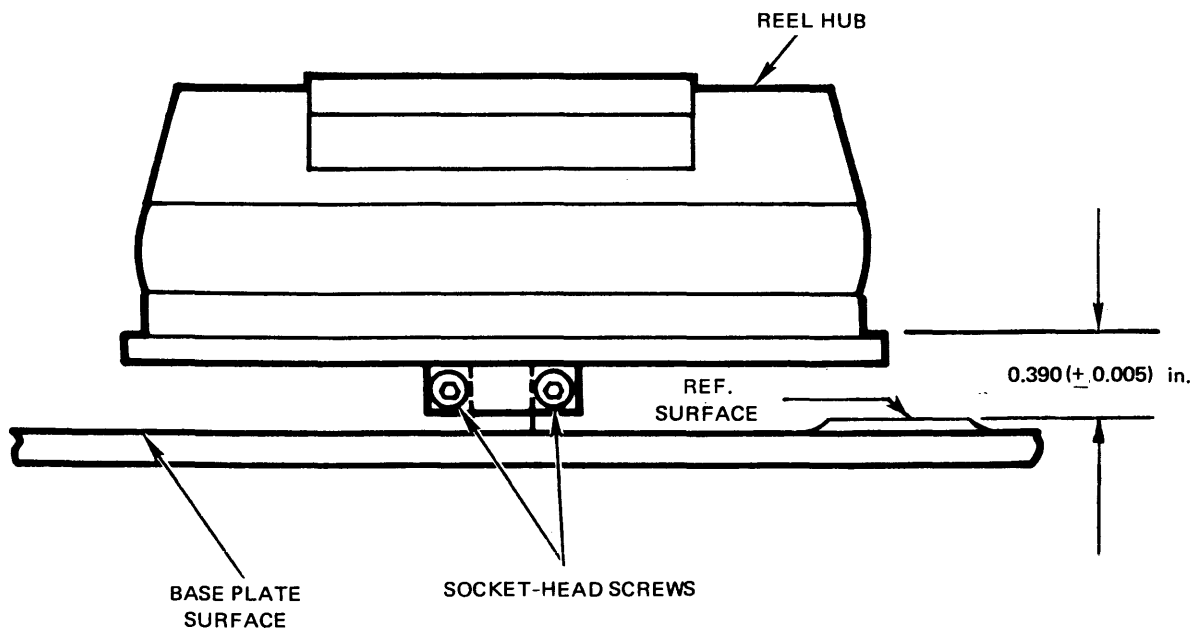

Figure 5-2. Reel Hub, Showing Adjustment Dimension
5-16. REEL HUB. Replace and adjust the supply or takeup reel hub as follows (Figure 5-2):
- b. Install replacement hub on shaft to obtain dimension shown in Figure 5-2, and tighten socket-head screws.